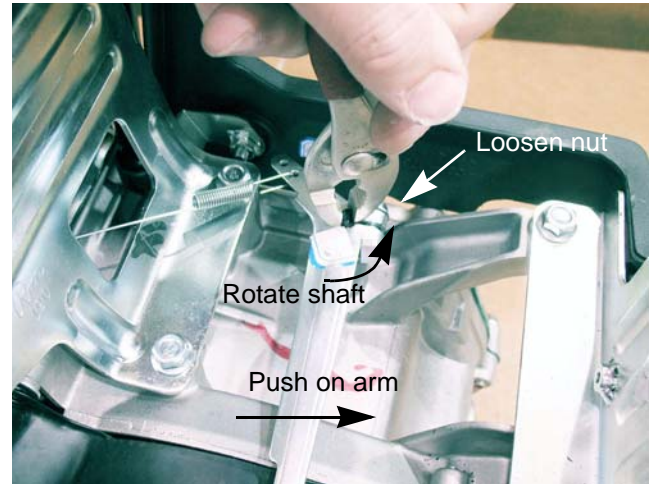

Figure 4.26
3. Pry open the governor arm crimp with a flat head screwdriver. See Figure 4.26.